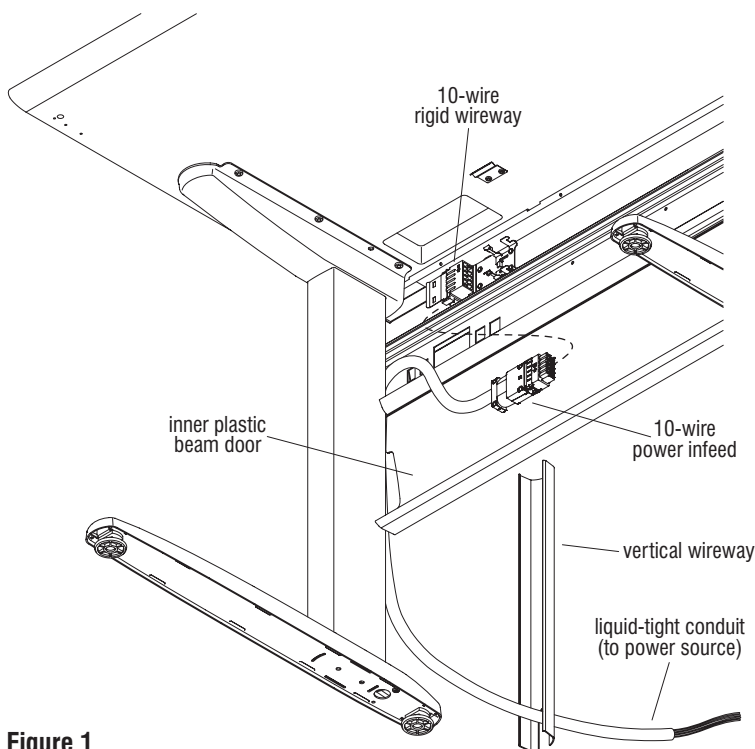

Figure 1
4. Re-attach the vertical wireway to the C-leg first by sliding the wireway up into the D-shaped opening in the data trough, then down into the D-shaped opening in the foot. To secure, press against the top of the vertical wireway until it snaps into position (Figure 1).